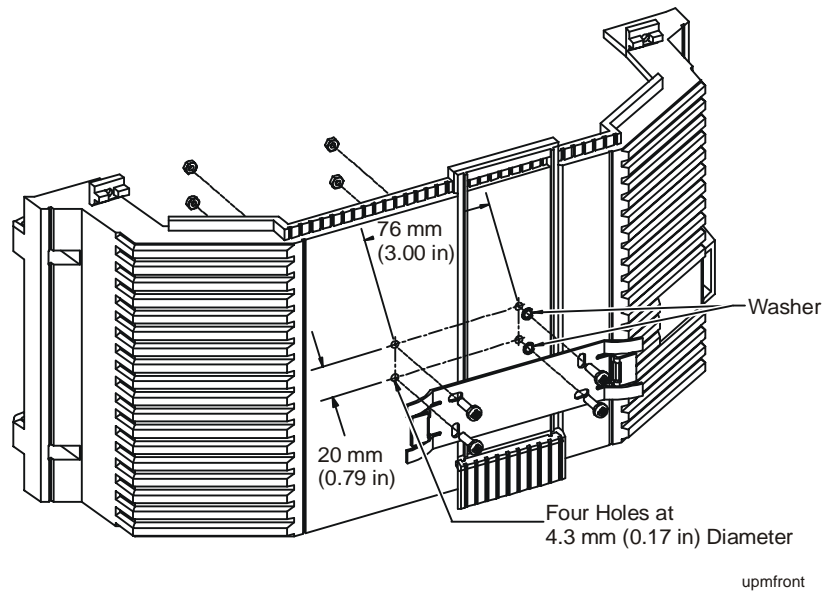

Figure 3-6: Mounting the Wall Mounting Bracket on a UPM
1. Position the wall mounting bracket on the UPM to allow mounting of the DX LCD Display (Figure 3-6).